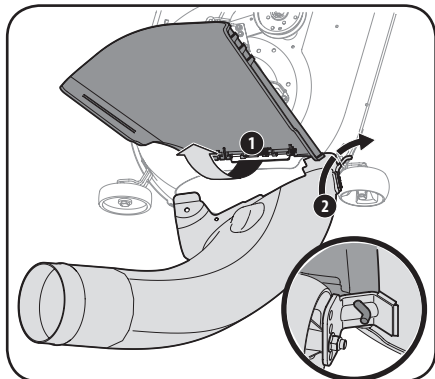

Figure 4-12
1. With the tractor's discharge chute raised up and held open (1), install the chute elbow by placing the chute elbow mounting rod into the chute mounting tab (2), as shown in Figure 4-12.